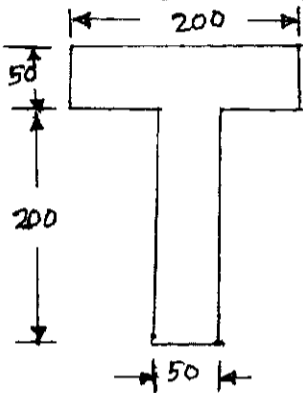

Fig. Q7(b)
- b. A T-section as shown in Fig. Q7(b) is subjected to moment 20 kN m . Find the stress at the extreme fibres of cross section. Plot the bending stress diagram. (14 Marks)